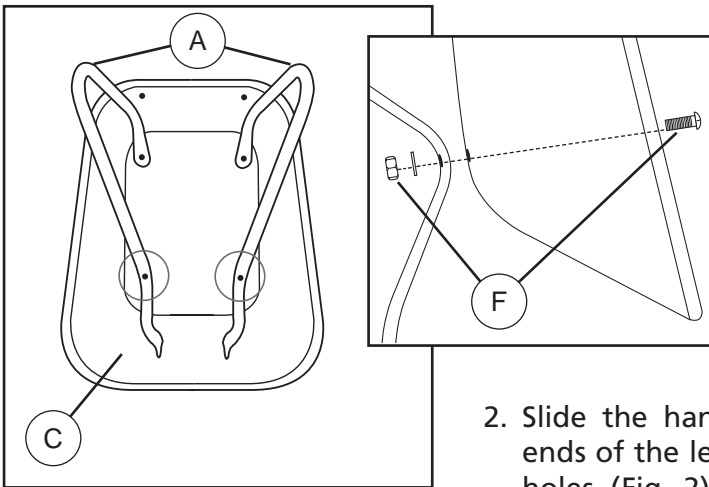

Figure 1
1. Lay the pan (C) face down. Position the leg sections (A) and line up the holes (Fig. 1). Push the bolt (F) from inside the pan through the lined-up holes, fit the washer and screw on the nylon nut, finger-tight only at this stage.